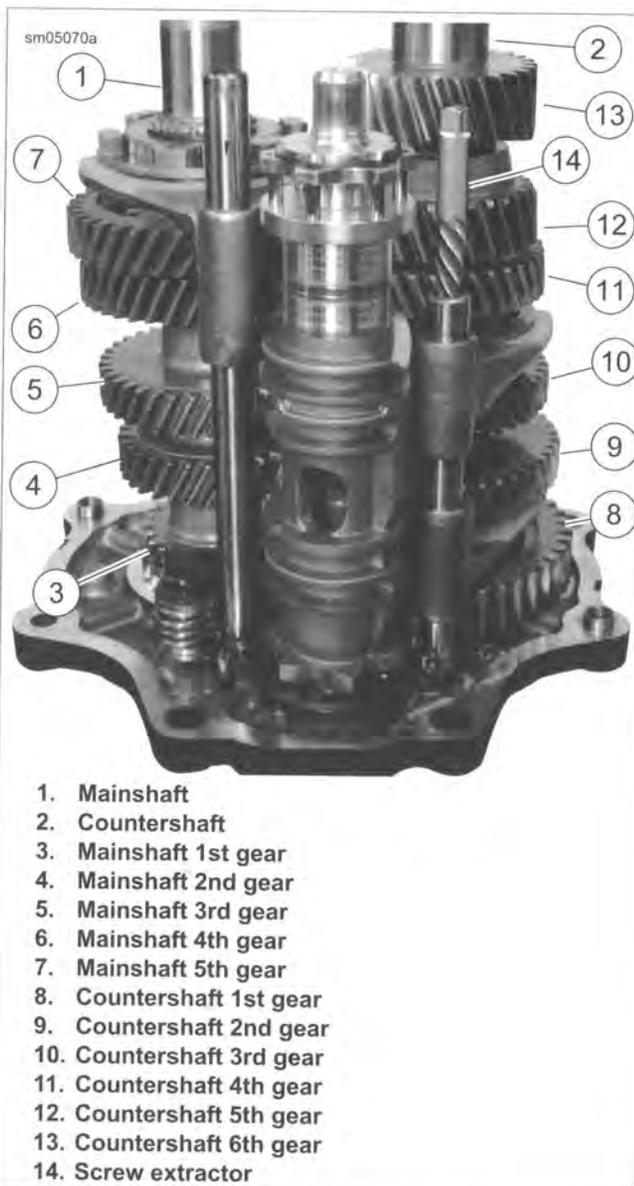
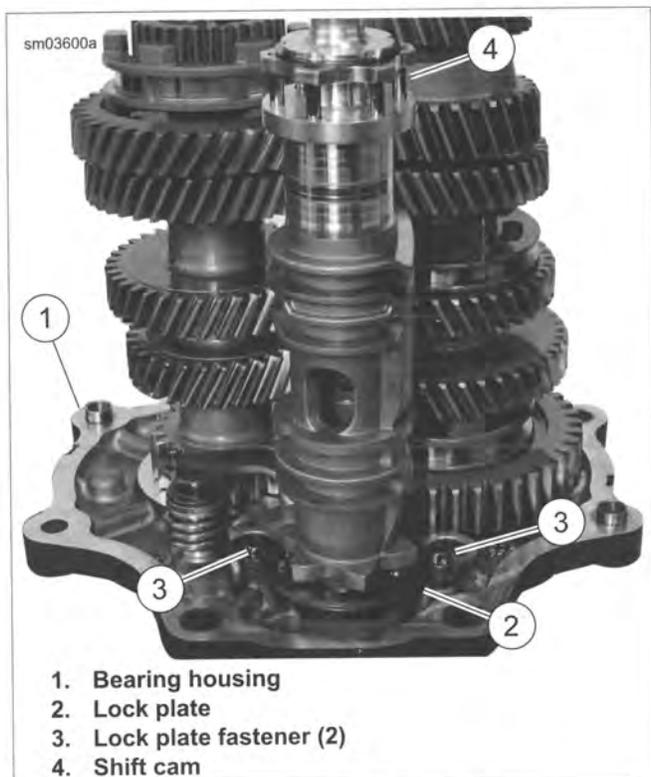

Figure 6-13. Gear Set
Figure 6-14. Shift Drum
- See Figure 6-13. Disassemble bearing housing assembly:
- Remove shift fork shafts using easy-out screw extractor (14) (non-flute design) or vise grips. Shafts have slight interference fit. Shafts can be reused; do not damage end of shaft.
- See Figure 6-14. Remove lock plate fasteners (3) from lock plate (2). Discard fasteners.